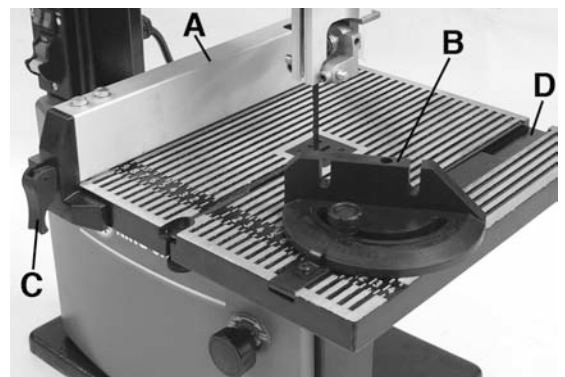

FIGURE 6
The rip fence (A) Fig.6 is used as a fence to guide the workpiece for ripping operations and the miter gauge (B) is used for angled miter cuts and also to push the workpiece into the blade.
- 1) Slide rip fence (A) Fig.6 onto the table and secure it by pushing down on the lock handle (C). It may be necessary to rotate the lock handle counterclockwise to allow the rip fence to fit onto the table. Rotate locking handle clockwise before locking the handle in position.
- 2) Place the miter gauge (B) Fig.6 into the miter gauge slot (D) in the table on the right side of the blade.